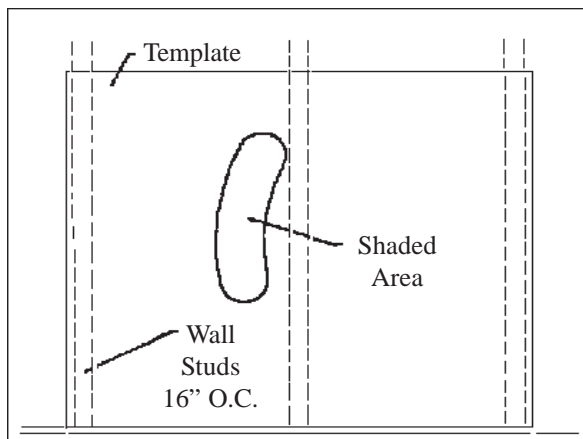

FIGURE 4
- a) Select area on wall where heater will be installed. Using template (packed with heater) mark shaded area where hole can be cut and to locate the wall brackets. (See Figure 4).
- c) Mark location for 3-1/2" diameter hole between studs. Hole should be offset to miss studs. (See Fig. 4).